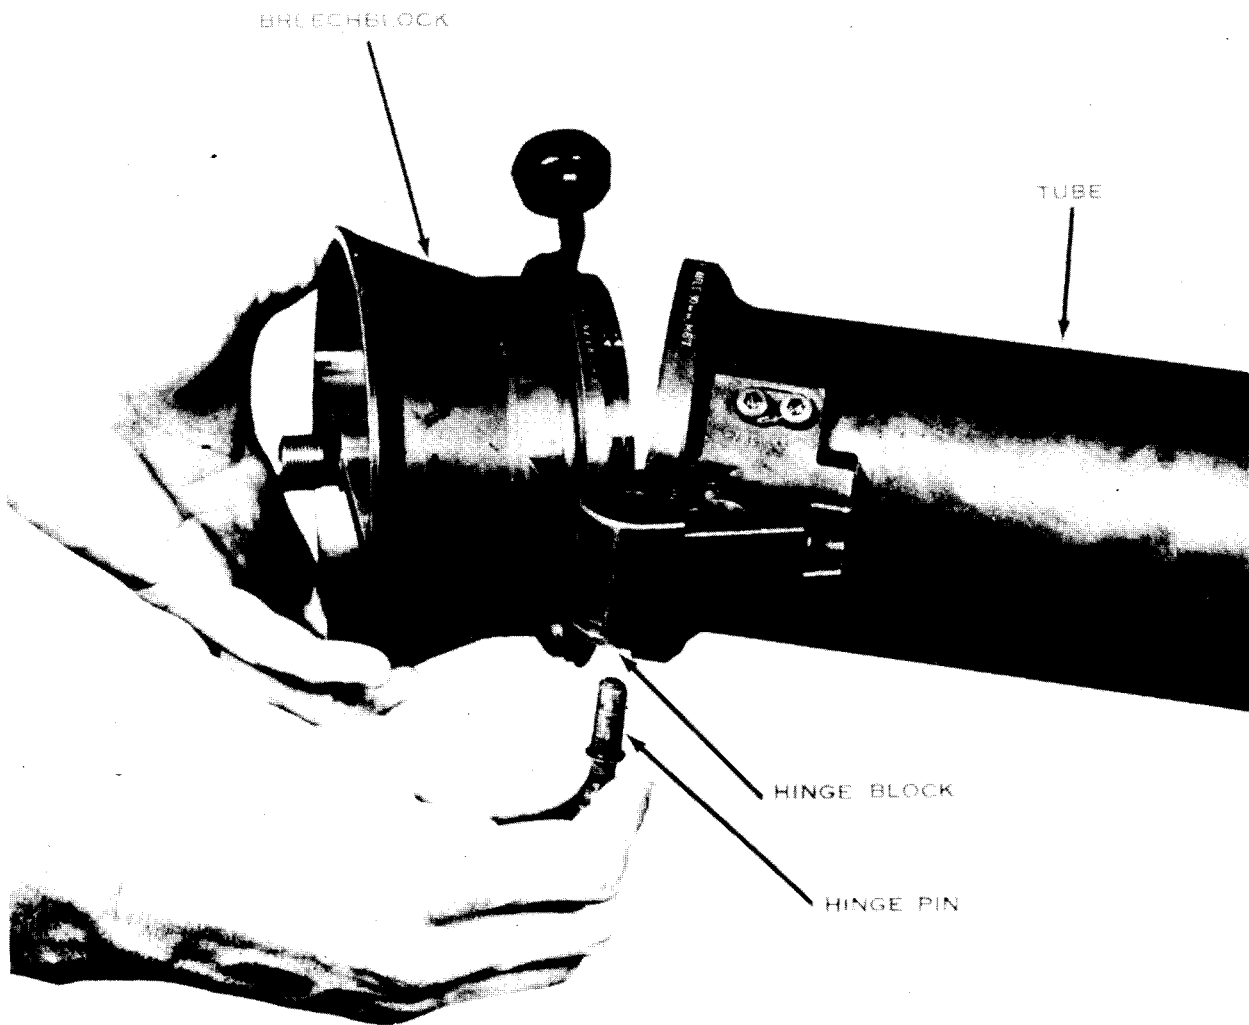

Figure 10. Removing and installing the hinge pin.
- (e) Unlock and open the breechblock. Push downward on the hinge pin (4, fig. 6) and remove (fig. 10).